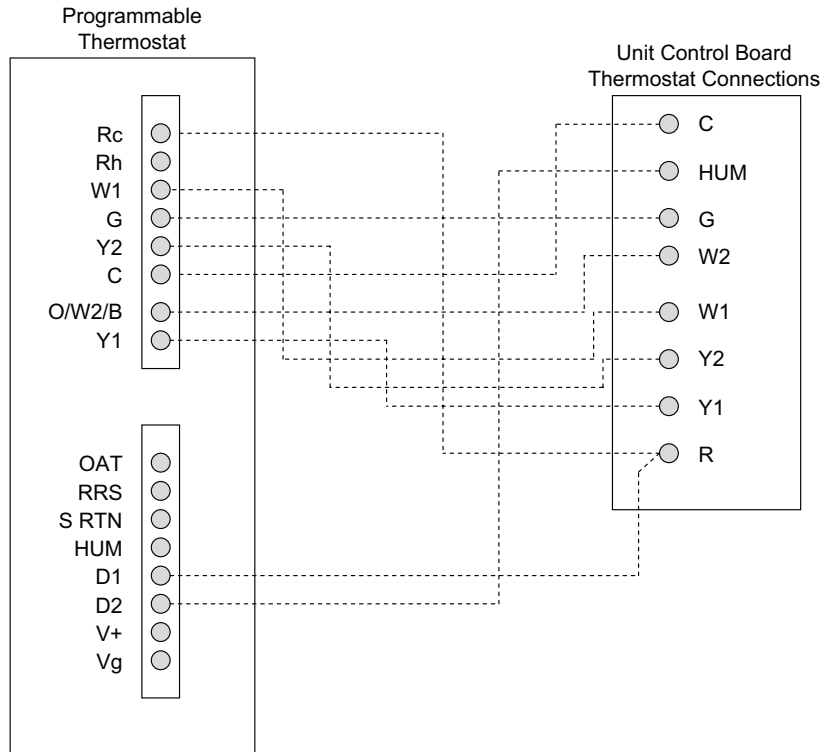

Fig. 43 — Typical Rooftop Unit with Humidi-MiZer Adaptive Dehumidification System and Edge® Pro Thermidistat Device
3. The Thermidistat has dry contacts at terminals D1 and D2 for dehumidification operation (see Fig. 43). Connect D1 to the R terminal on the UCB. Connect D2 to the HUM terminal on the UCB. Refer to the installation instructions included with the Carrier Edge® Pro Thermidistat device for more information.